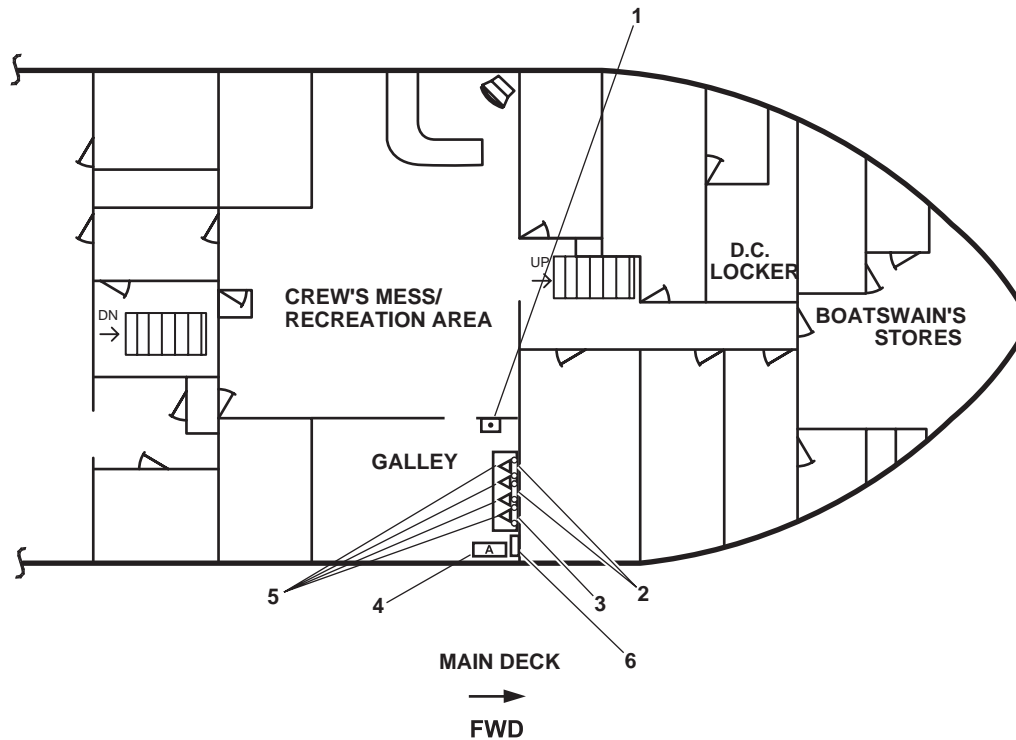

Figure 19. Galley Fire Suppression System
The galley fire suppression system is designed to extinguish fires that originate in the galley and the galley cooking equipment. The galley fire suppression system is a pre-engineered, wet chemical, cartridge operated, regulated pressure type extinguishing system. The system is capable of manual activation through the use of a fire alarm pull station (figure 19, item 1) or automatic actuation through the use of fusible links (figure 19, items 2 and 3) rated at 500 °F (260 °C) and 360 °F (182 °C), respectively.
The extinguishing agent is formulated with an aqueous solution of organic salts with a pH range between 7.8 and 8.2. It is designed for flame knock down and foam coverage of grease related fires. The wet chemical agent is stored in a 3-gallon (11.3 liter) carbon steel tank housed in a stainless steel enclosure (figure 19, item 4) mounted on the starboard bulkhead of the galley. The storage tank has a working pressure of 100 PSI (6.9 bar). The extinguishing agent is propelled by the use of a gas cartridge of carbon dioxide or nitrogen gas and delivered to the distribution nozzles (figure 19, item 5). The distribution nozzle tips have blow off caps to keep the nozzle orifices free of cooking grease buildup.
Activation of the galley fire suppression system is accomplished manually by pulling the fire alarm pull station (figure 19, item 1) or automatically by the melting of a fusible link (figure 19, items 2 and 3). Once the system has been manually or automatically activated, the gas charge propels the extinguishing agent (figure 19, item 4) to the distribution nozzles (figure 19, item 5). The electrical source for the protected equipment is not shut off, and the agent and the hot grease mix to form foam. This foam temporarily seals the combustible vapors, helping to inhibit re-ignition. The crew must secure the galley heat producing equipment. Once the galley fire suppression system has been activated, the Gaylord washdown system (figure 19, item 6) is activated in the fire cycle and sprays water into the Gaylord hood ventilation ductwork. Ventilation ducts are automatically secured by the activation of the Gaylord washdown system.